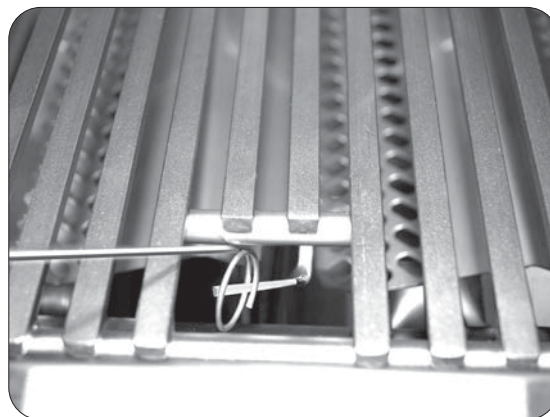

Fig. 27-2 - Manual lighting
**CAUTION:** Always wait five (5) minutes for gas to clear after any unsuccessful lighting attempt.
2. Insert either a burning long-barrel butane lighter, a burning long-stem match, or a burning match held by a wire extension holder through the cooking grid opening to the top of the burner (Fig. 27-2).
4. If the burner does not light within five (5) seconds of turning the control knob, **immediately depress the knob and turn the valve to OFF**. **WAIT FIVE (5) MINUTES** before repeating steps 2 through 4 of the **MANUAL LIGHTING** instructions.